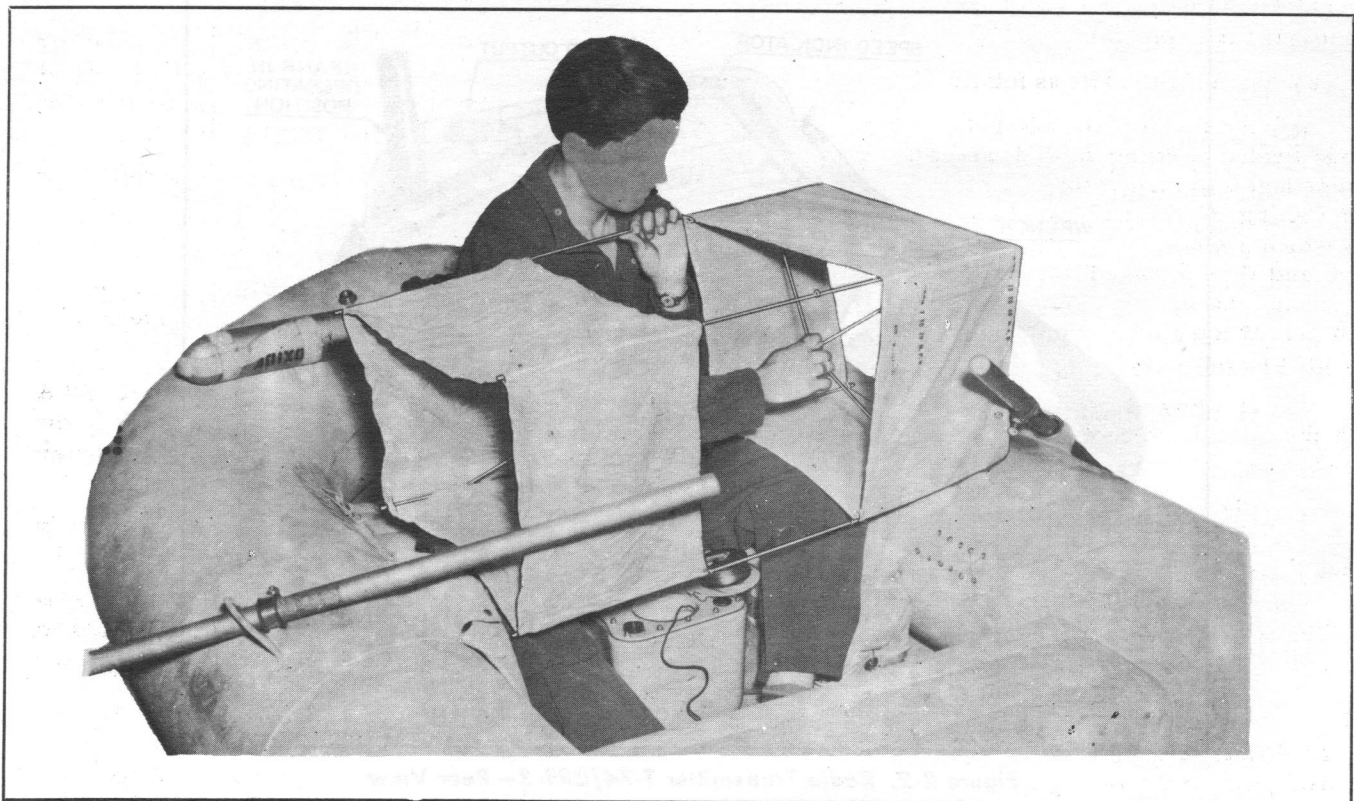

Figure 2-4. Kite M-357-A—Assembly, Step 2
*(c)* Place one hand on each spider and push toward the ends of the kite. (See figs. 2-4 and 2-5.) When these have been sufficiently extended, they will lock into position. Stop pushing on the spiders just as soon as you feel them jump. The process may be thought of as similar to that of opening an umbrella.
(18) With the antenna fastened to the balloon, release the "BRAKE" and allow the balloon to pull out *all* the wire on the reel.
(19) Attach the antenna-securing cord to the life raft and connect the antenna lead-in from the transmitter to the antenna. (See fig. 2-4.)
j. Operating the transmitter requires a comparatively high turning torque. To assure stability, a belt assembly is attached to the case of the transmitter and employed to fasten the transmitter to the operator. (See fig. 2-4.) Attach the transmitter as follows:
(1) Assume a sitting position and place the transmitter between the legs just above the knees, with the front panel facing outward.
(2) Pass the long strap over the left leg.
(3) Bring the long strap underneath both legs and buckle it to the short strap at the side of the right leg.